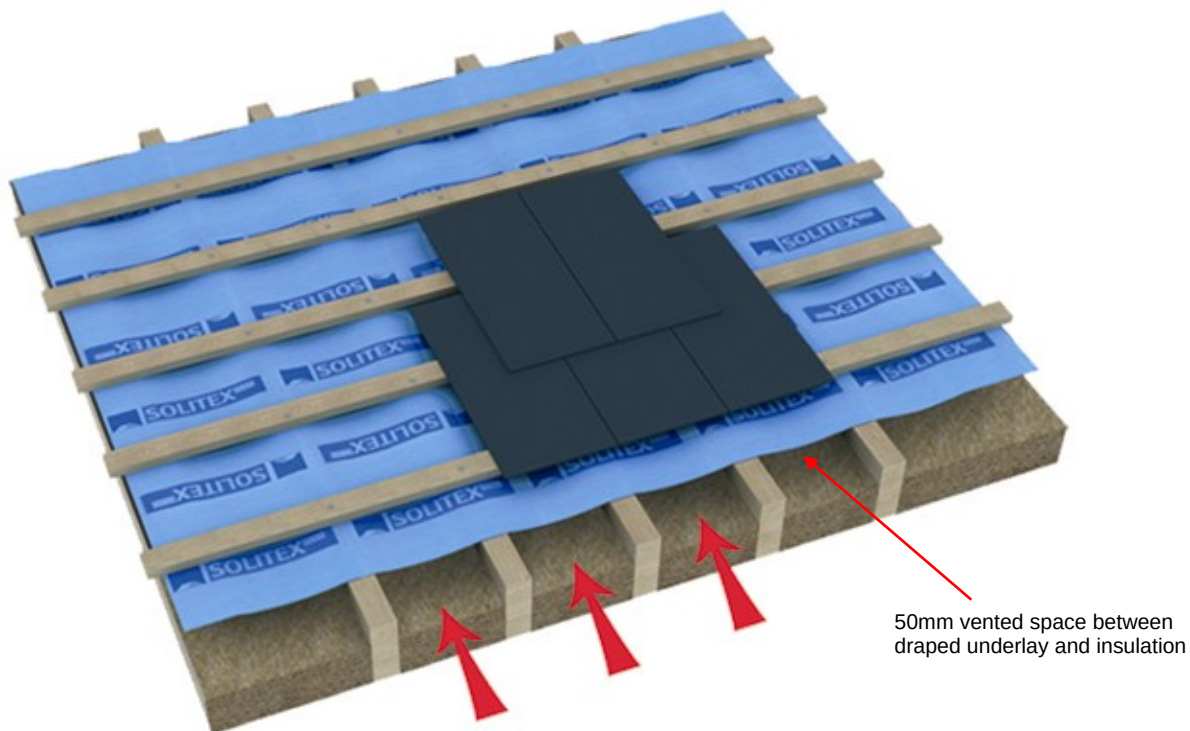

Figure 1: Ventilated warm roof detail
- Solitex Plus and Solitex UD may be installed without ventilation, however where ventilation is considered the ventilation requirements should be in accordance with TGD to Part F of the Building Regulations 1997 to 2006. Continuous eaves ventilation should be provided at a minimum rate equivalent to 10mm continuous and ridge ventilation of 5mm per linear meter ref. Fig 1 and 3)